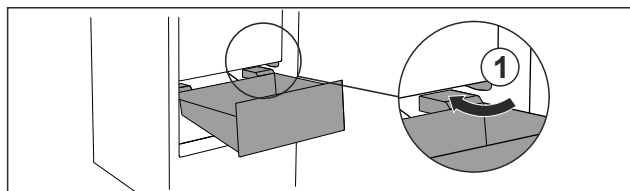

Fig. 136
- ▶ Guide drawer in at an angle around the stoppers Fig. 136 (1).